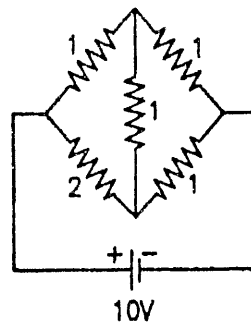

FIG. 1.187 : REFERENCE FIGURE FOR PROBLEM NO. 10
10. Using delta-star transformation, determine the current drawn from the source in the given circuit of Fig. 1.187. [8.46 A]